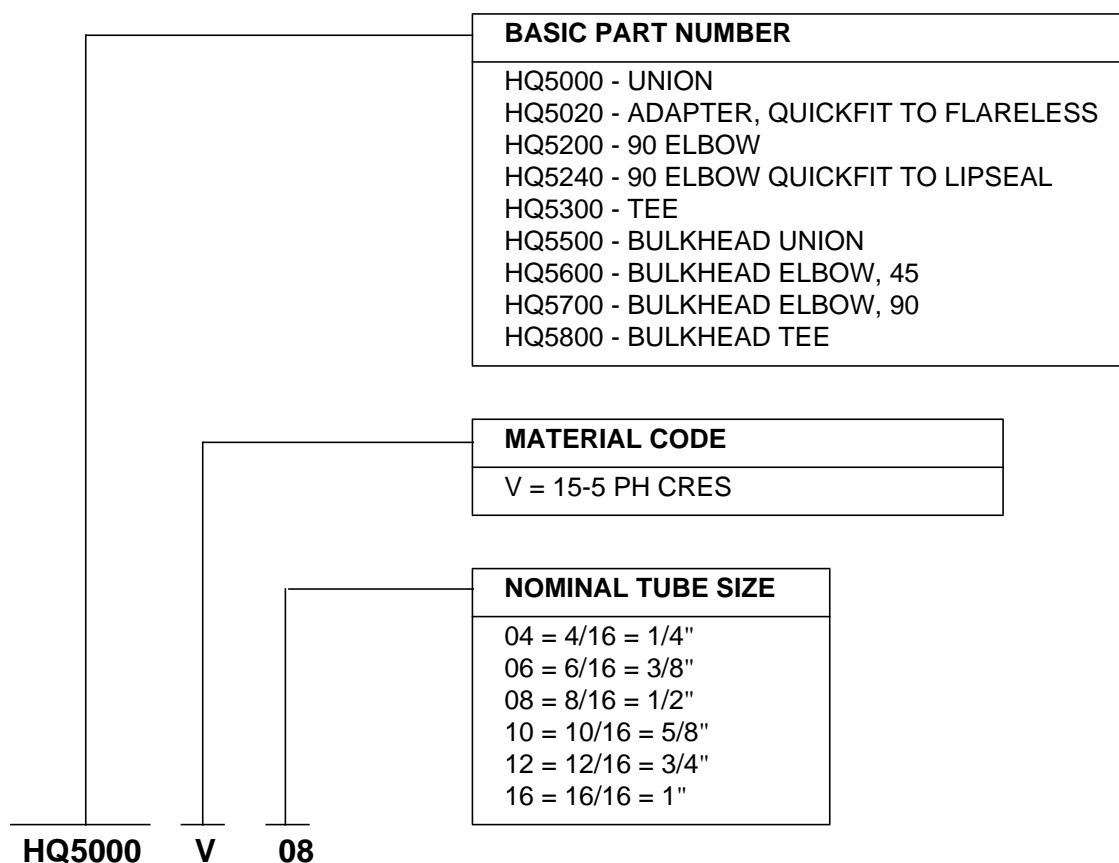

Figure 1 - Quickfit Part Number Breakdown
- 4.1.2 Quickfit fittings as specified by the engineering drawing. Refer to Figure 1 for a part number breakdown.